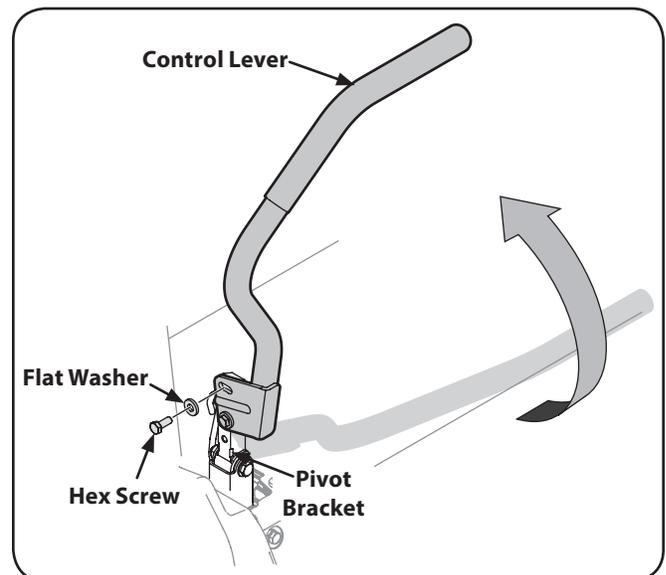

Figure 3-6
2. Lift and swing that control lever upward until the slotted hole in the lever bracket aligns with one of the holes in the pivot bracket. See Figure 3-6.
- Slide the flat washer onto the hex screw. From the outside, insert the hex screw with washer through the control lever slot and the hole of the pivot bracket. See Figure 3-6. Using a ½" wrench snug the screw, but do not fully tighten.